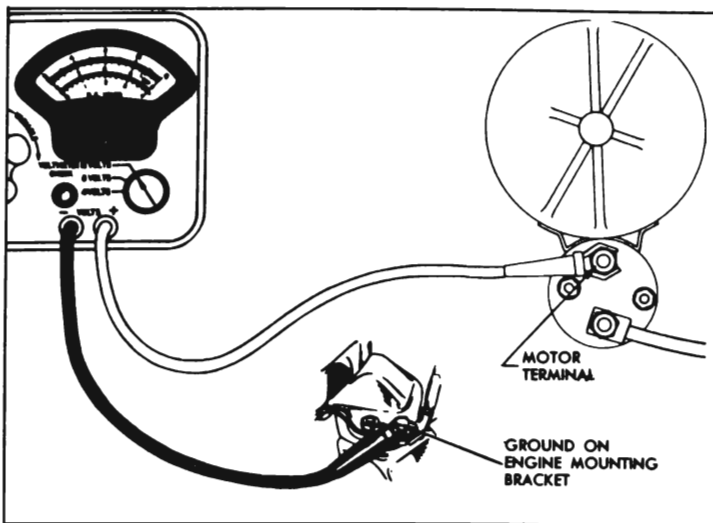

Figure 10-27—Cranking Voltage Test Connections
3. Connect voltmeter positive (+) lead to the motor terminal on solenoid switch; connect voltmeter negative (-) lead to ground on engine. See figure 10-27.